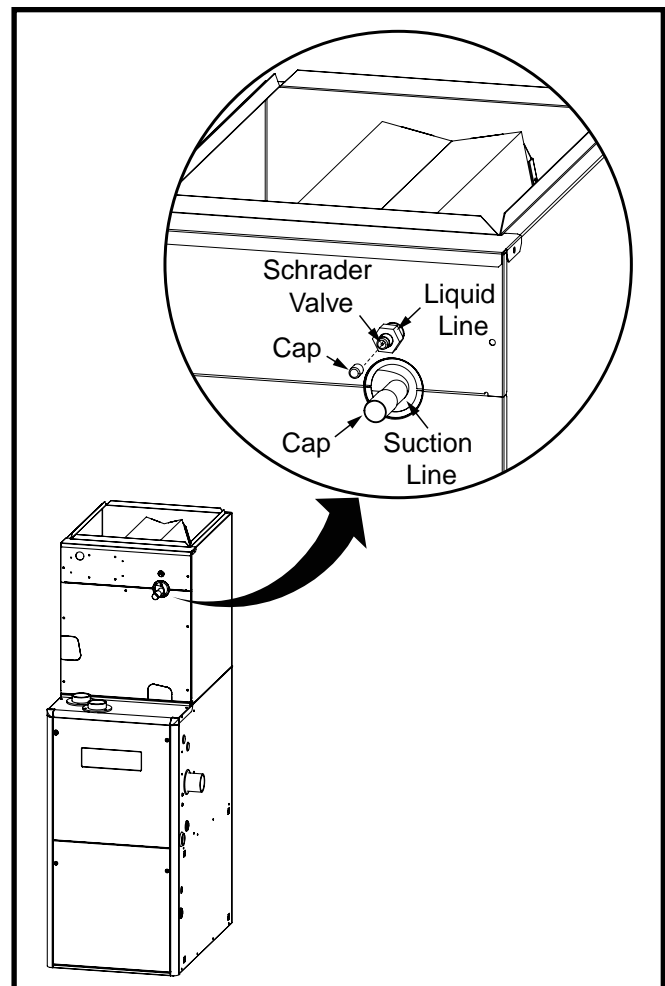

Figure 2. Suction & Liquid Line Locations
1. Remove the cap (Figure 2, page 3) from the end of the liquid line.